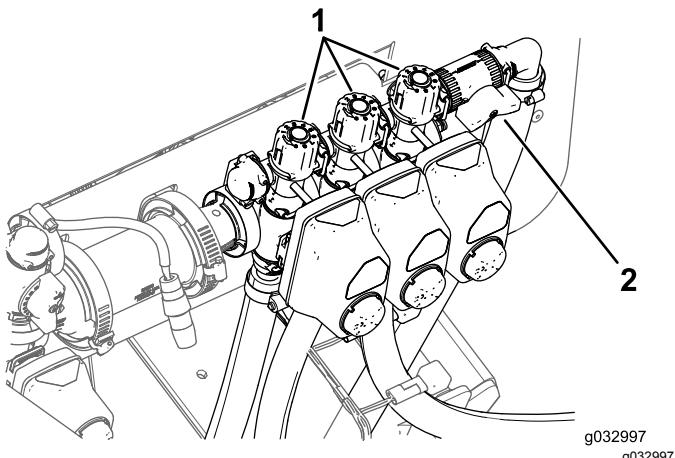

Figure 47
11. Turn off the left boom and adjust the boom-bypass knob (Figure 47) until the rate displayed is at the previous level according to the table.
13. Adjust the right boom-bypass knob (Figure 47) until the rate displayed is at the previous level according to the table.
15. Adjust the center boom-bypass knob (Figure 47) until the rate displayed is at the previous level according to the table.